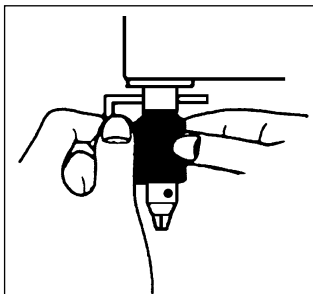

Figure 2
2. Anchoring of the unit is possible using (2) screws (not provided) through anchor holes **12**.
4. Install the drill chuck **5** by threading it onto the bottom of the spindle; insert the wrench into the hole **11** in the spindle to keep the spindle from turning while you tighten the chuck (see Figure 2).